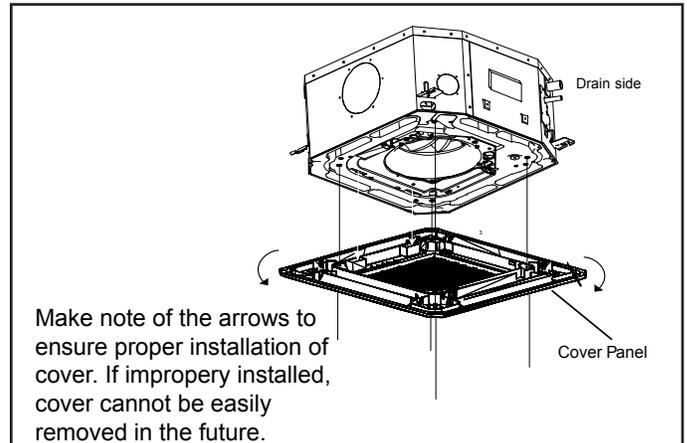

Figure 23. Install Panel Cover
3. Position the ceiling panel so that the arrow on the panel is aligned with the arrow sticker on the cassette base (both arrow stickers should be on the same side of the cassette base). **NOTE** - If the panel and the base are not properly aligned, the airflow will be blocked and the harness plugs from the panel to the cassette base will not be long enough to plug together. See Figure 23.